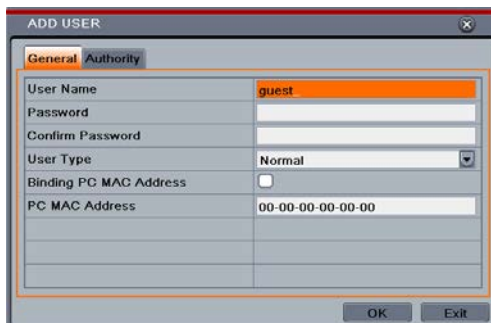

Fig 5-28 Add-General
Step 2: Click Add button to display a dialog box as Fig 5-28: